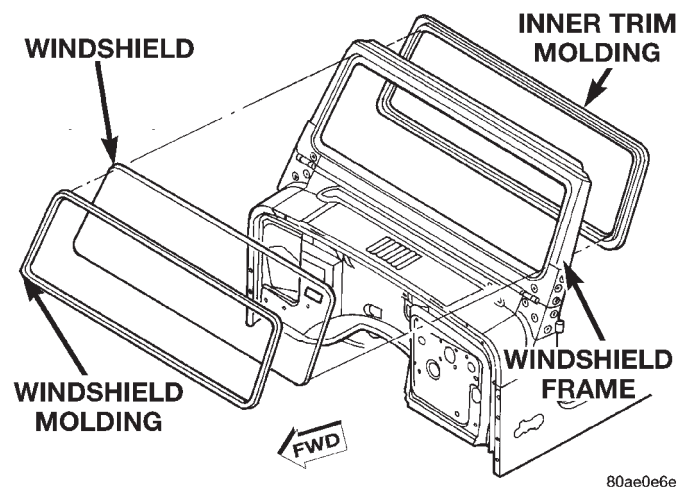

Fig. 2 Windshield
- (6) Remove the windshield glass from the frame (Fig. 2).